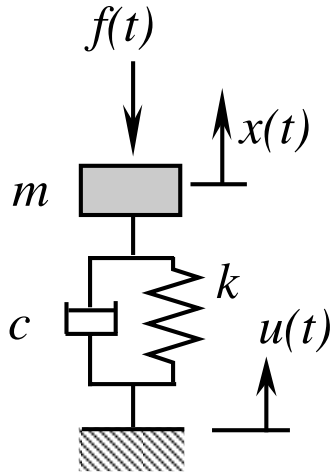

Figure 6: A simple model for isolation tables
- This is an old exam that I gave in Spring Quarter of 2004. Engineer X starts a new business building and selling vibration isolation tables. In principle, isolation tables can be modeled as a spring-mass-damper system as shown in Fig. 6, where m , c , and k are the mass, damping coefficient, and stiffness, respectively. Also, $u(t)$ is the motion of the floor, $x(t)$ is the displacement of the isolation table, and $f(t)$ is an external force acting on the table. For the isolation table to function well, we would like to minimize $x(t)$ as much as possible. Answer the following questions.